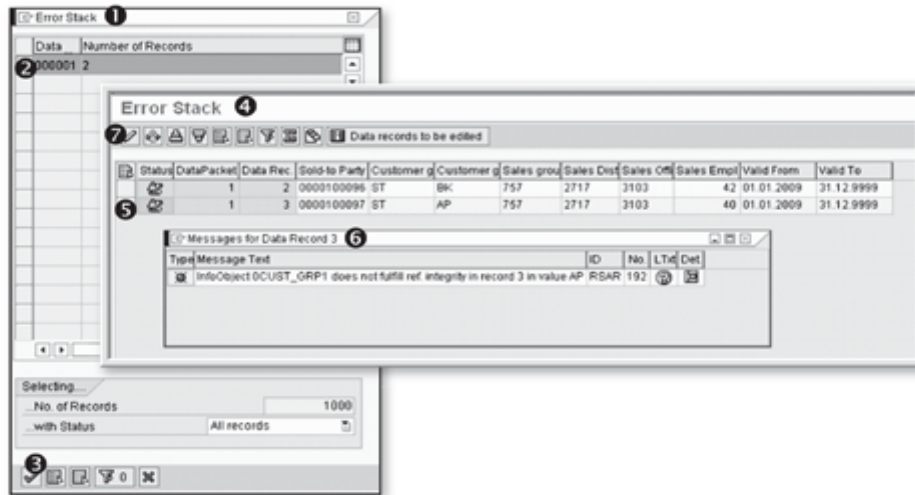

Figure 7.83 Data in the Error Stack
Viewing the records in the error stack is the same as viewing the data in PSA; to do so, click the Error Stack button (4). This displays the Error Stack box shown in 1 of Figure 7.83. Each data packet and its number of records are listed (2 of Figure 7.83). Select the data packet, and click the Continue icon (3), which opens the box shown in 4. All of the erroneous records from the selected data packet are listed in this screen. To view the error details for a particular record, select the record and double-click the icon shown in 5. The error detail for the selected record is shown in another pop-up box (6). To correct value errors, select the record, and click the Change icon (7).